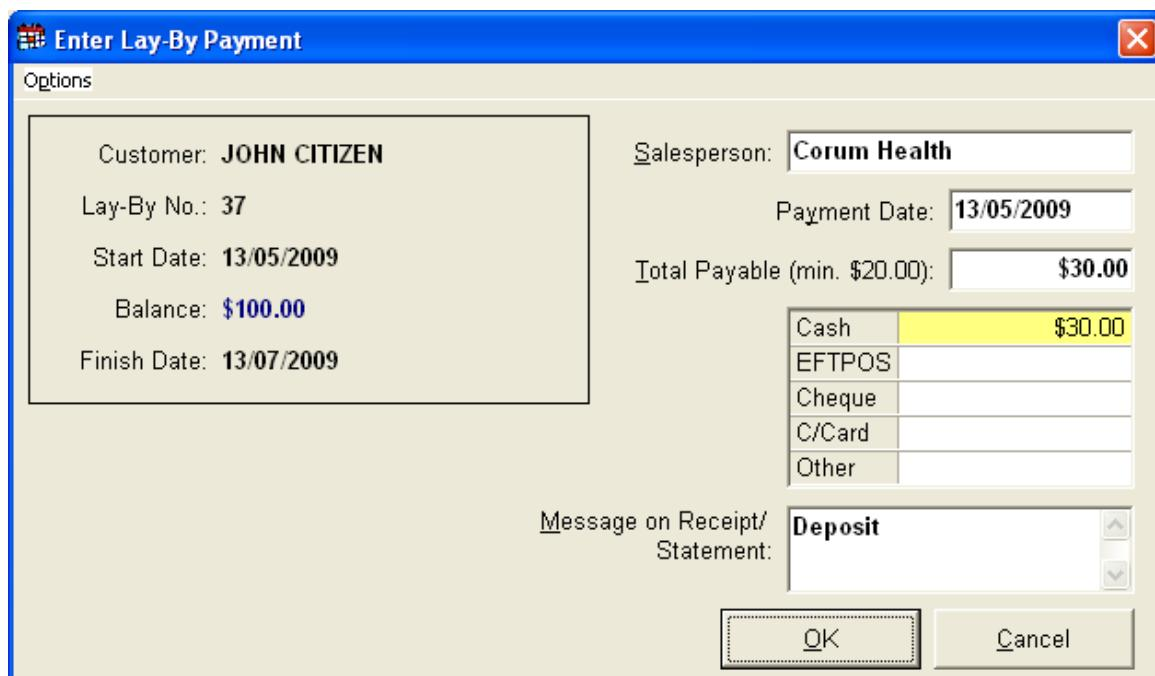

Figure 82
7. To enter in the initial deposit select 'Enter Deposit (+)' (Figure 80 – previous page), which will display the 'Enter Lay-By Payment' window (see Figure 82).